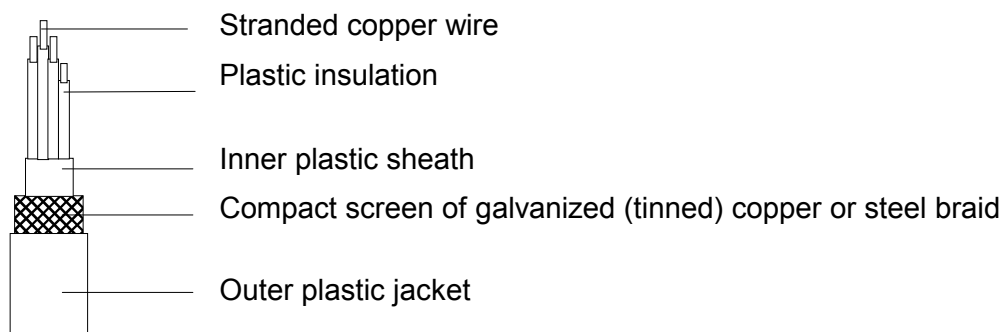

Figure A-1: Specification for screened cable
- The cable between inverter/cabinet output and motor shall be 4-wire screened cable as specified in Figure A-1 (three phases and earth conductor green/yellow).
These signal leads must be screened cable as specified in Figure A-1.